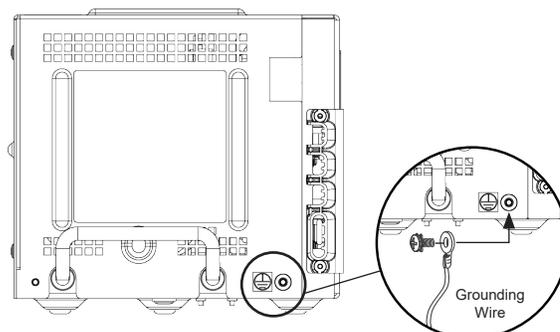

Fig. 16, Power Supply Ground
7. Using a user-supplied ground wire, connect the rack to the power supply ground by using the #10-32 ground stud Δ in Fig. 13. Connect the other end of the ground wire to the power supply using the ground screw provided (Fig. 16). Refer to applicable codes to determine additional grounding requirements.